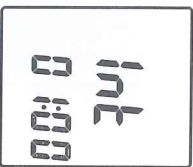

Fig.6
- (3) Press HOLD button to set storing interval. (see Fig.6)
- (4) Press ▲ (T1-T2) or ▼ (°C) to adjust the minute, press HOLD button again to adjust second.
- (5) When finished, press HOLD button to exit SETUP mode.